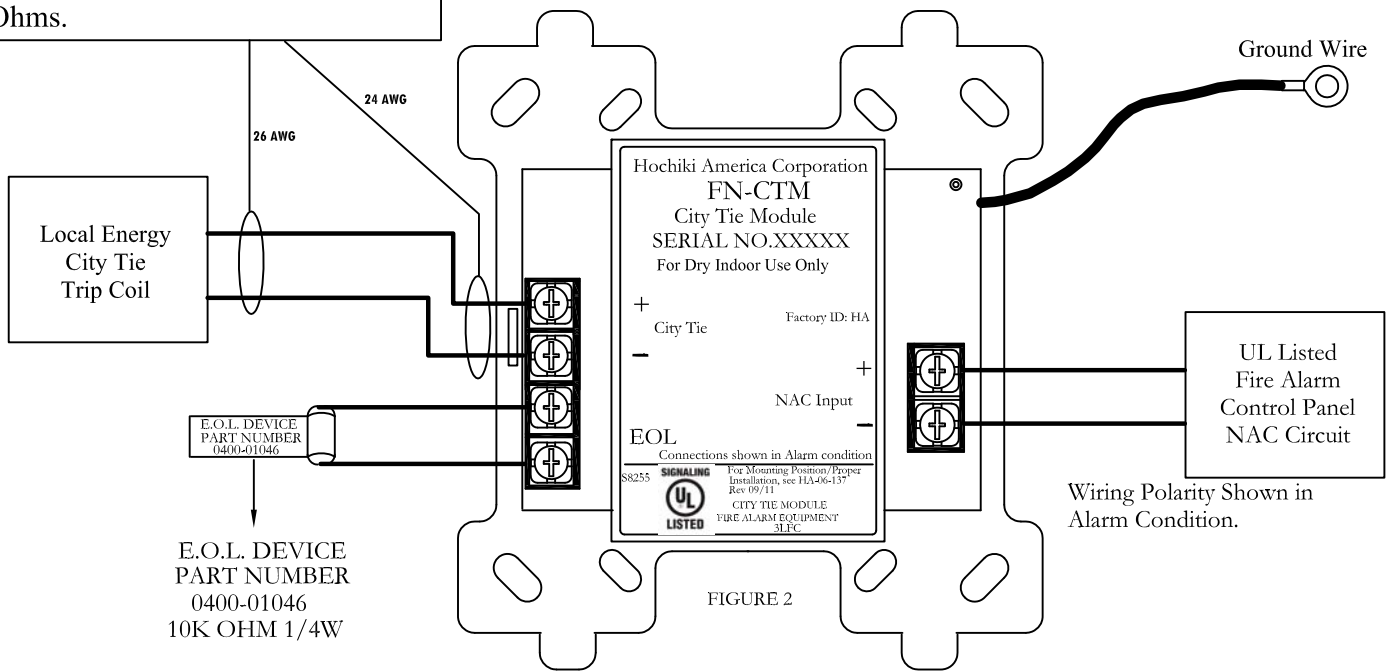

FIGURE 2
- 1) Install module wiring in accordance with the job drawings and appropriate wiring diagram (see figure 2).